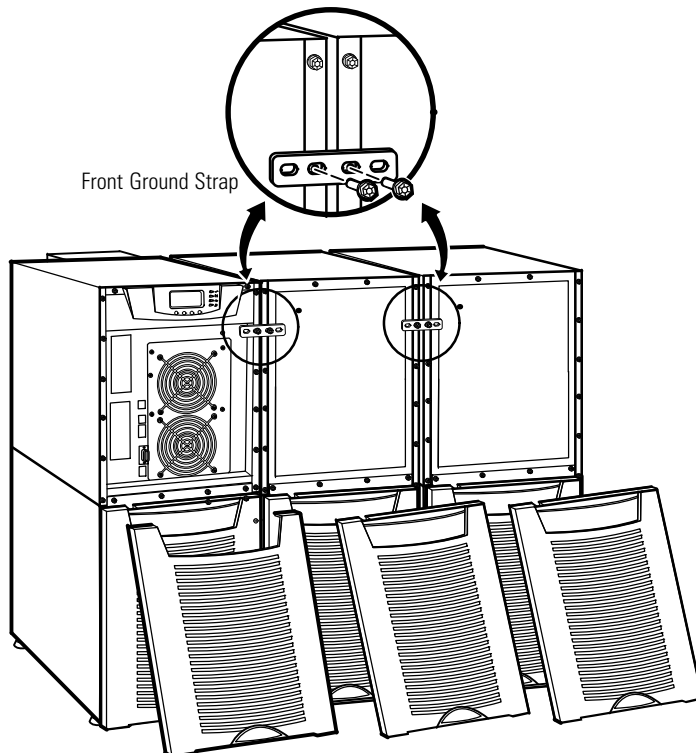

Figure 27. Front Ground Strap Installation (2-High Cabinets Shown)
9. Install the remaining ground straps between each cabinet (see Figure 27).